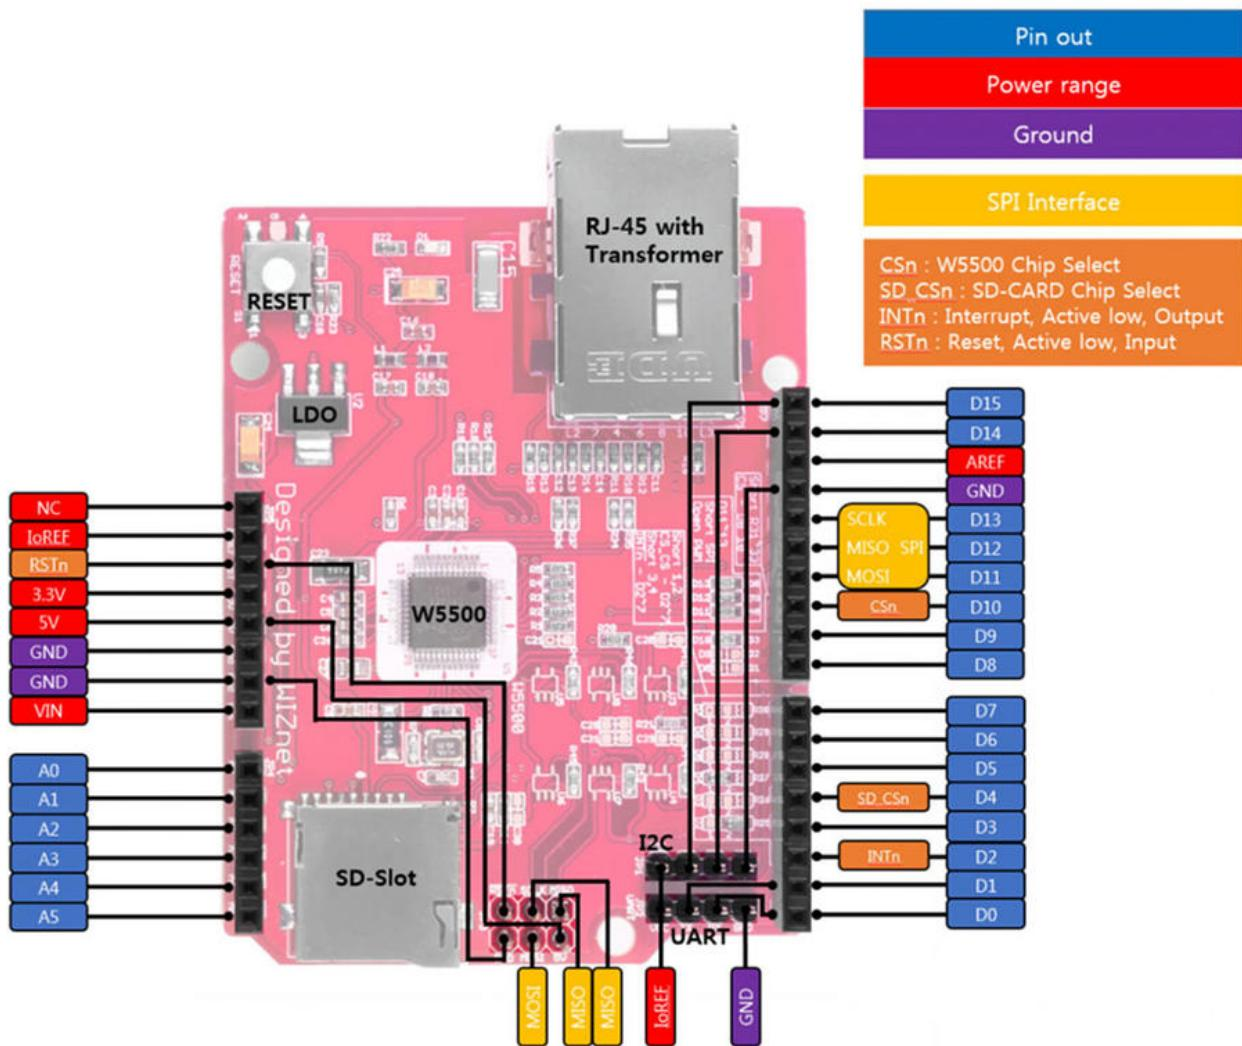

Figure 5: The pinout of the W5500 shield
As said before, the W5500 mates seamlessly with all sixteen Nucleo boards. The Figure 5¹⁷ shows the shield pinout. The SPI interface is routed to D13, D12 and D11 pins, and they correspond to the same pins of the SPI1 peripheral (apart for the Nucleo-F302R8 board where those pins correspond to SPI2 peripheral). The *Slave Select* (SS) pin for the W5500 pin corresponds to the Arduino D10 pin, while the SS pin for the SD card corresponds to the Arduino D4 pin.
Looking to **Figure 5**, you can see that the D2 pin plays an important role. The W5500 IC is designed to optionally assert low the INTn pin when several events related to the network interface (e.g. IP collision, etc.) or to the single socket (e.g. connection established, data received, etc.) happen. This feature allows to configure the corresponding MCU pin as `GPIO_MODE_IT_FALLING`, so that the corresponding IRQ fires when the IC asserts low the INTn pin. This allows to write down asynchronous applications, especially if you are using the `ioLibrary_Driver` in conjunction with an RTOS (for example, the ISR may use a semaphore to wake-up a sleeping thread that starts performing operation with a socket).